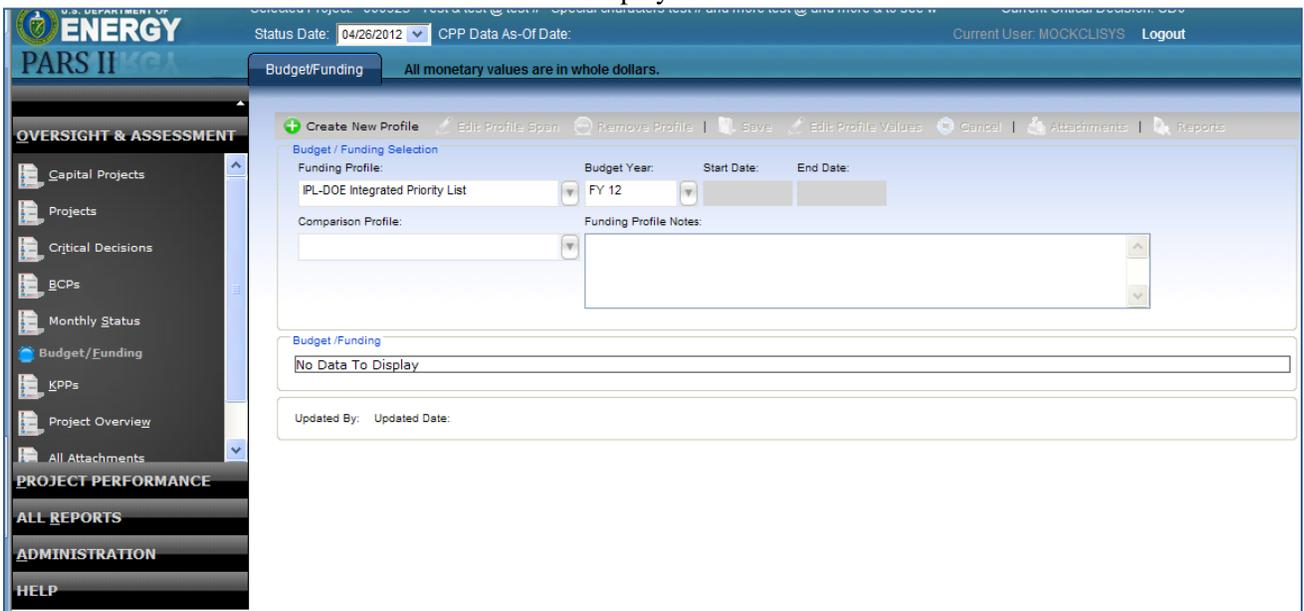

Figure 29 Budget/Funding – Empty Profile
1. Select the desired profile from the Comparison Profile dropdown as shown below and the screen will display as shown in Figure 29 on the next page.